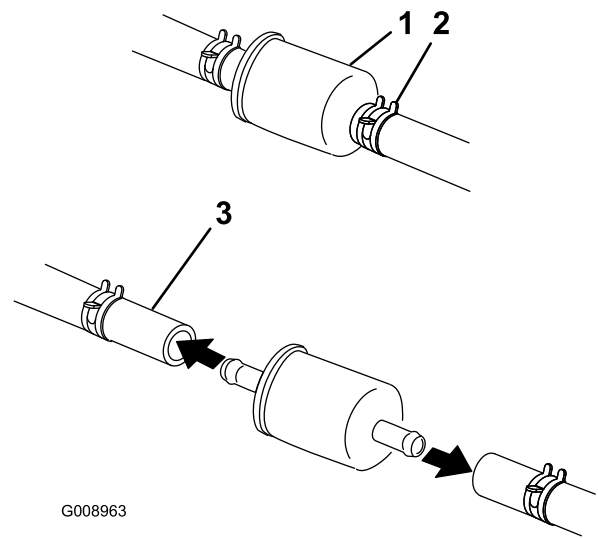

Figure 56
5. Close the fuel shutoff valve under the seat (Figure 56).
6. Squeeze the ends of the hose clamps together and slide them away from the filter (Figure 56).
8. Install a new filter and move the hose clamps close to the filter (Figure 56).